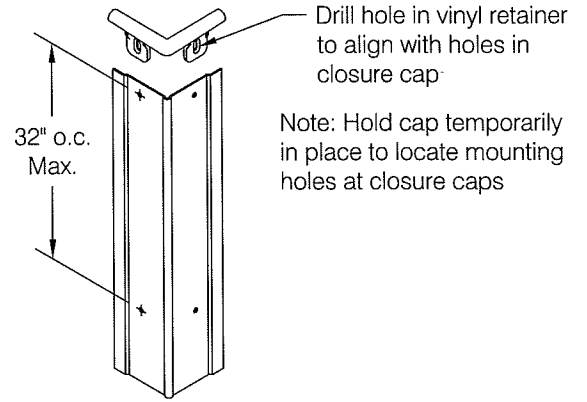

fig 2
- Step 2:** If installing on masonry pre-drill clearance holes in vinyl retainer for hardware listed below using a #15 (.180") bit for #8 fastener. Locate mounting holes at closure caps and along the vinyl retainer not to exceed 32" on center, see **fig 2**. If installing on gypsum wall with stud backing proceed to **step 3**.
Drywall Installation: Locate mounting holes at closure caps and along the vinyl retainer not to exceed 32" on center, see **fig 2**. If it is necessary to install fasteners in locations where there is no metal backing or stud use pre-drilled vinyl retainer as a template to mark and drill wall for plastic Alligator® insert in accordance with instructions provided with hardware.